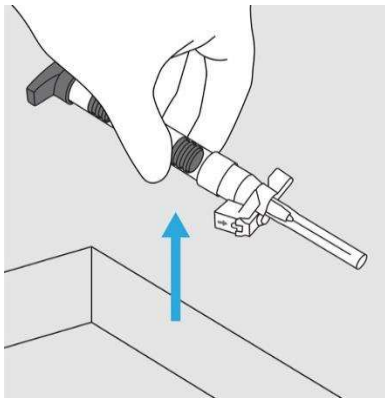

Figure 2: Remove Syringe
2. Open package and remove the syringe (Parts Overview Part 1). (Figure 2)